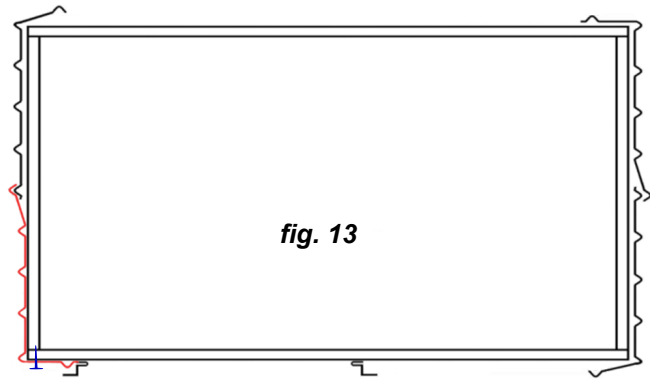

fig. 13
- 7.1 Position the corner wall sheets as per (**fig.13**)
- 7.4 Repeat with all 4 corner sheets, remembering to ensure the side with the lip is correct as per (**fig.13**)